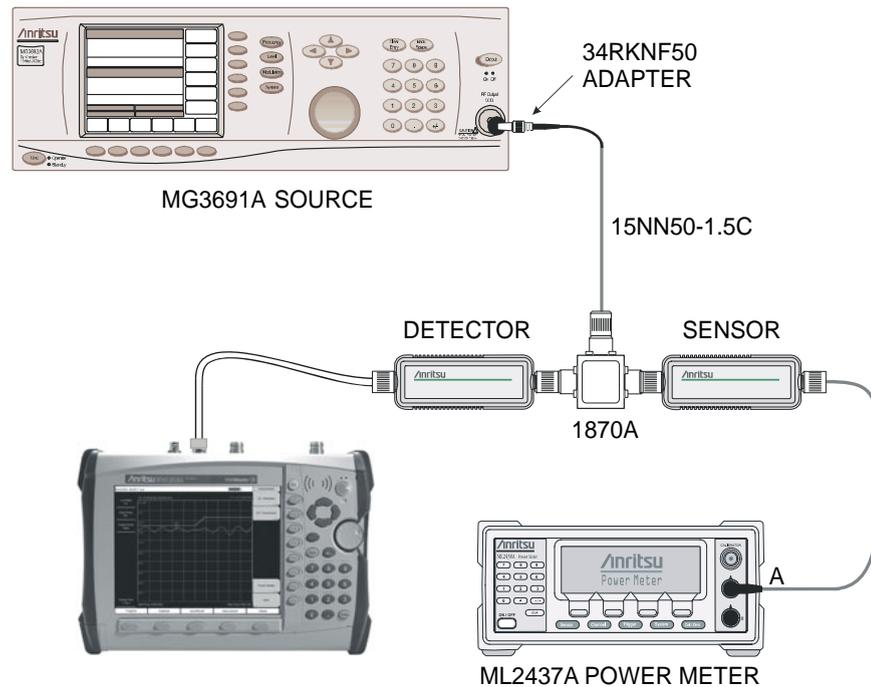

Figure 2-5. Power Monitor (Option 5) Verification
5. Connect the equipment as shown in Figure 2-5.